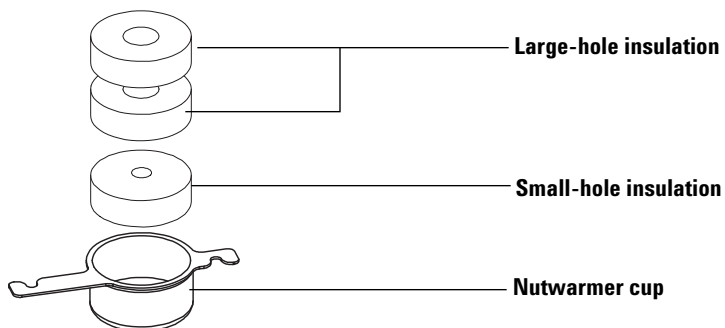

Figure 12 Placing the insulation in the nut warmer cup
- 1 Place the insulation in the nutwarmer cup. (See Figure 12.)